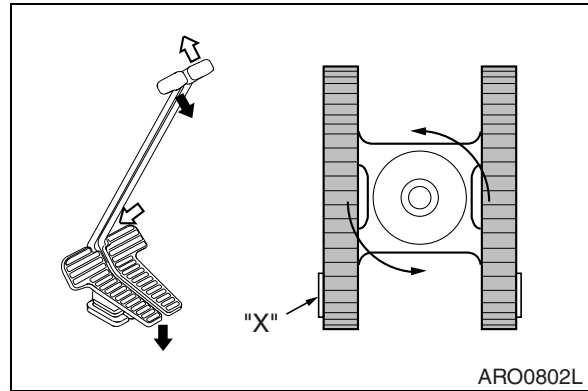

Figure 40
- Spin turns (Figure 40) are made by rotating one track forward and one track backward. The machine will spin around its center point, thus counter-rotating.